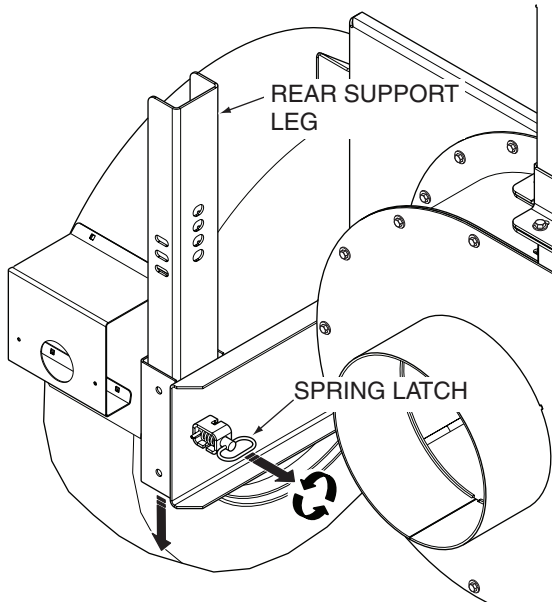

Figure 4-5. Lowering the Rear Support Leg
7. Pull and turn the spring latch to unlock the pin securing the rear support leg in the transport position. See Figure 4-5.